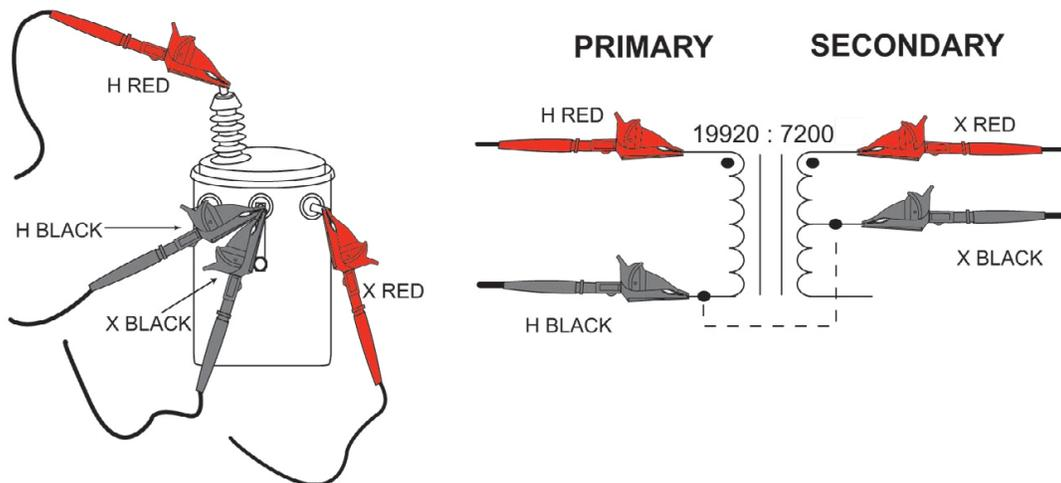
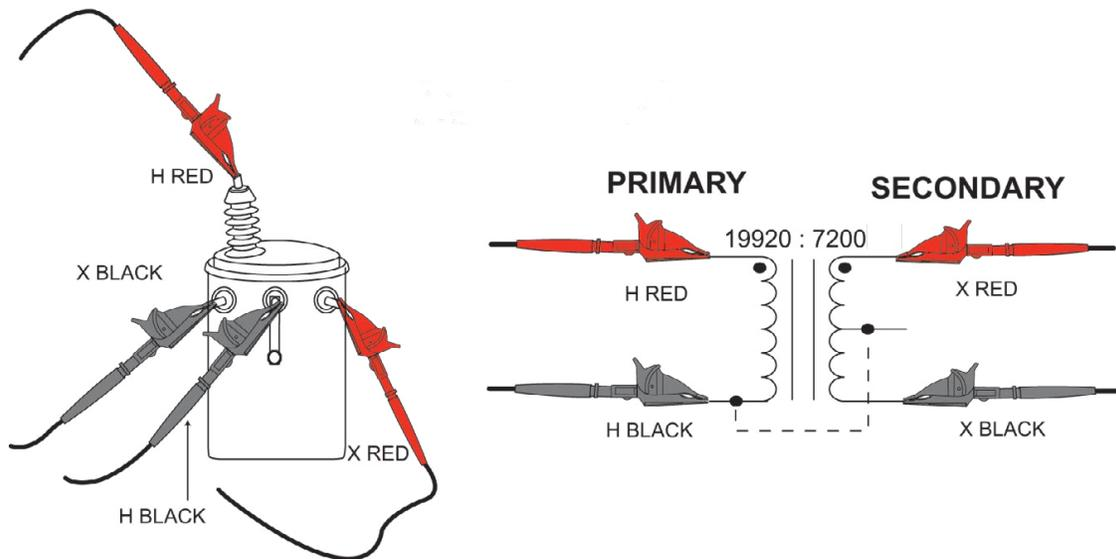
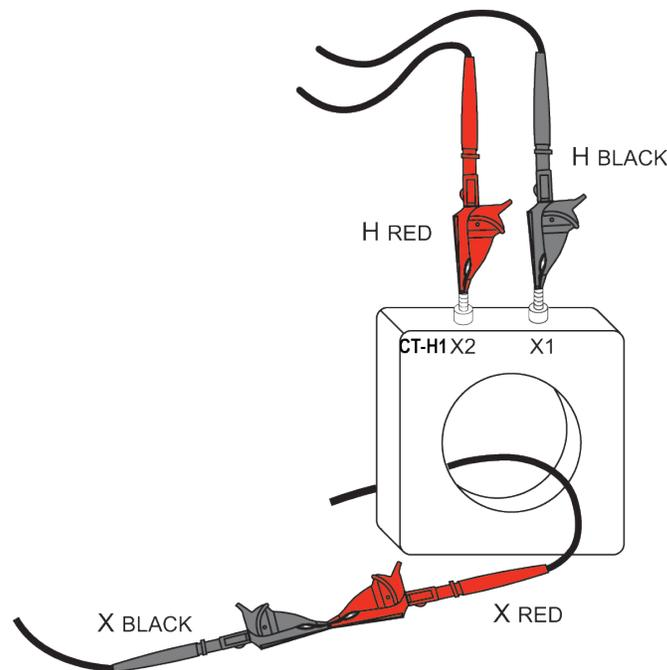

Figure 101
Figure 102
Figure 109
1. Connect the Primary (H) and Secondary (X) cables to the appropriate connectors on the DTR[®] 8511 and the transformer under test (see Figures 101 & 102).
For Typical Connection: VT/PT see Figure 101 & Figure 102, CT see Figure 109